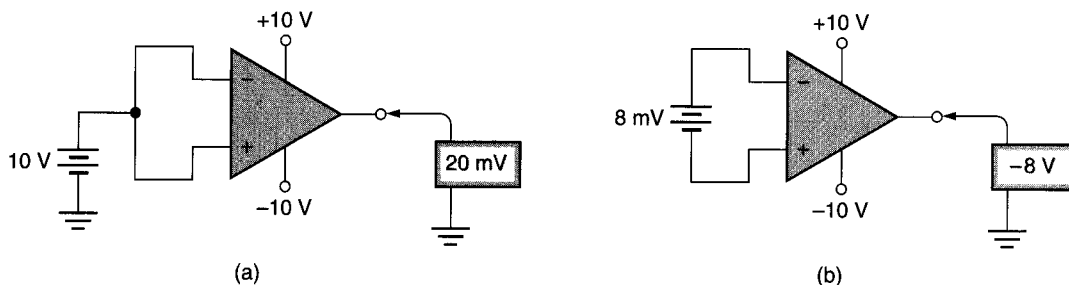

FIGURE 15.72
49. The op-amp in Figure 15.72 has the input and output voltages shown. Determine the CMRR of the device.